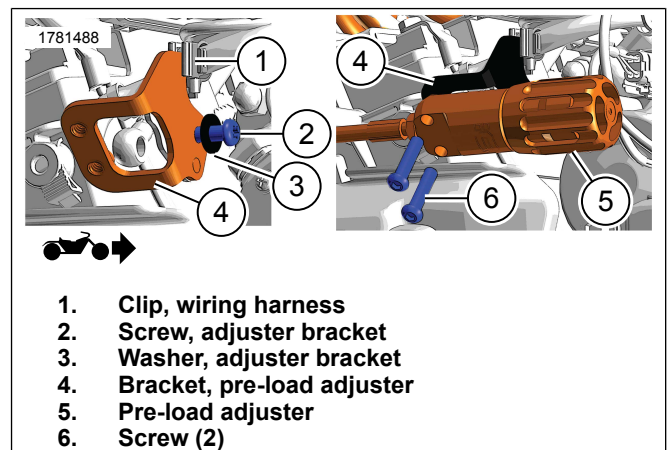

Figure 4. ABS Module Bracket and Pre-Load Adjuster
2. Figure 4 Install side cover (2), reservoir clamp (1), screws (4) and spacers (3).
3. Tighten screws (4).